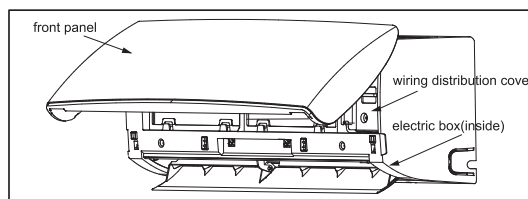
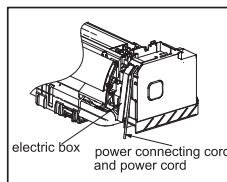

Fig. 16
Fig. 17
6) Open the front panel and wiring distribution cover (Fig.16), then guide the power connecting cord and power cord through the guide rail of the electric box (Fig.17).